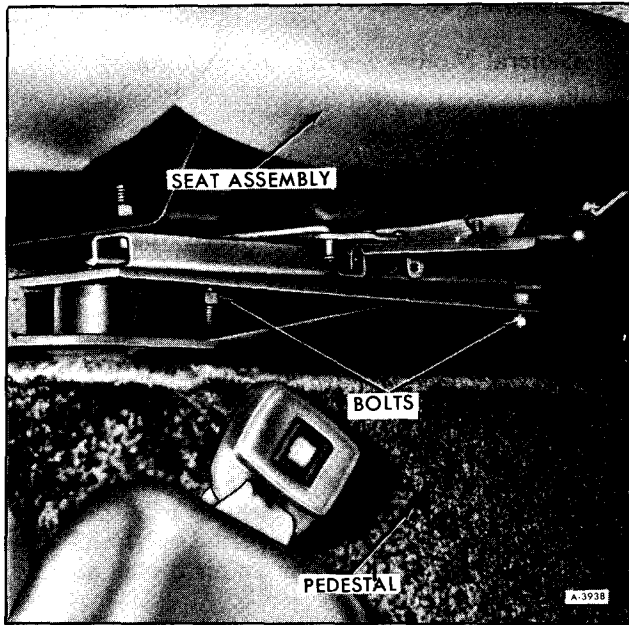

Figure 39—Seat Attaching Bolts
2. This will allow access to the four retaining bolts. Remove four bolts (See figure 39).